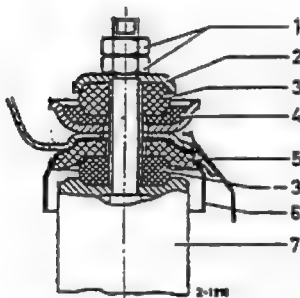

Fig. 32-2/4
Push on the lower rubber ring (4) with the rounded side pointing upward and the lower rubber ring (3) with the rounded side pointing downward (Fig. 32-2/7). The dish of the upper cup should point upward.